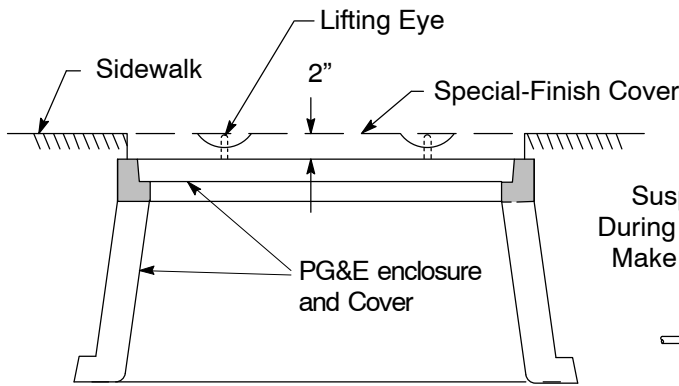

Figure 1
1. Frequently the customer or city (or other public entity) installs special-finish sidewalks (brick, tile, terrazzo, etc.). When required with enclosures through 3' x 5', the enclosure and standard cover shall be installed 2-inch below the final grade, and the customer or city shall furnish and install the special-finish cover as illustrated in Figure 1 on Page 4